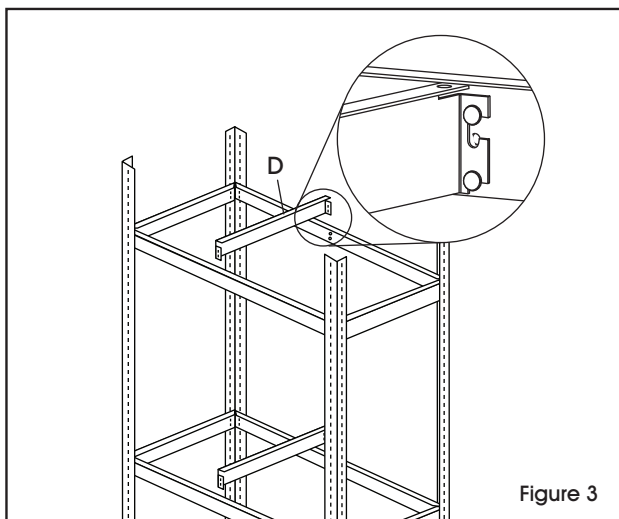

Figure 3
4. Attach shelf supports (D) at each level by placing the keyhole slots (on shelf support) over the rivets (on the inside of the front/back support) and tapping them into place. (See Figure 3)